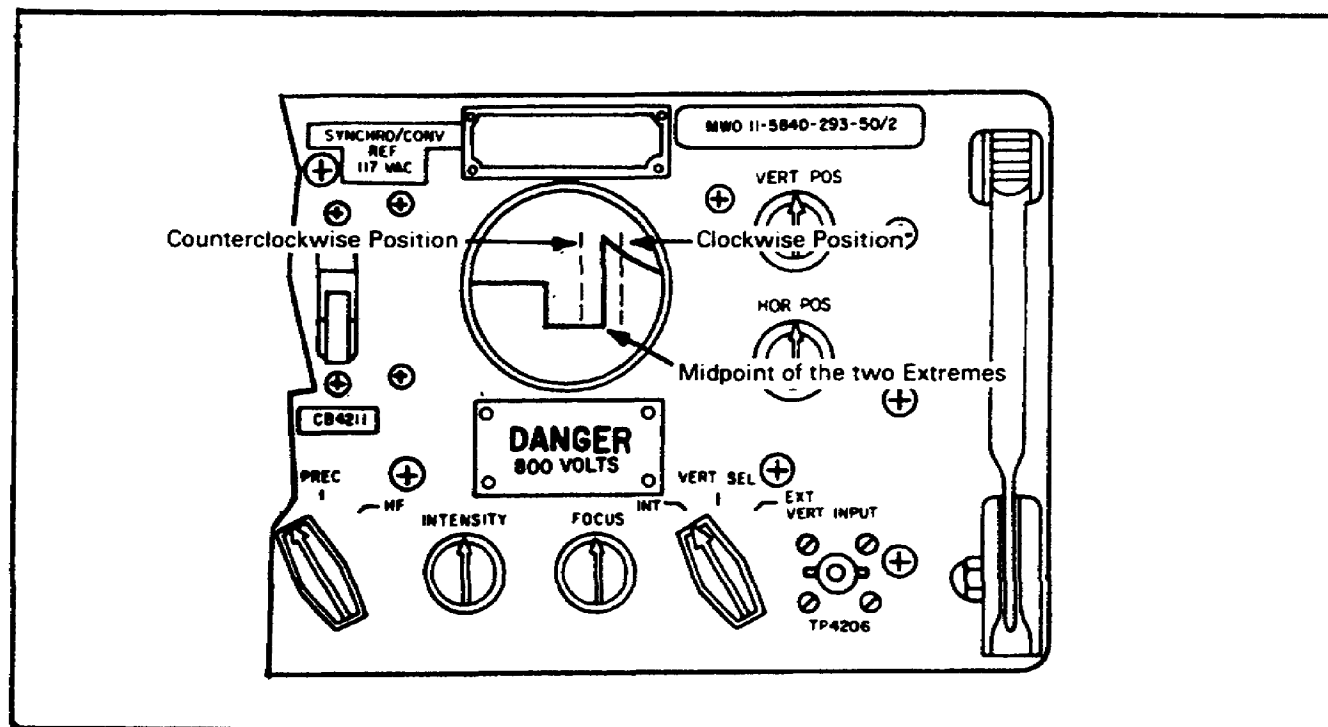

Figure 56. B-trigger delay adjust control R-6807, midpoint.
q. Adjust B-trigger delay adjust control R-6807 until the gate is set to the midpoint of the two extremes. (See Figure 56.)